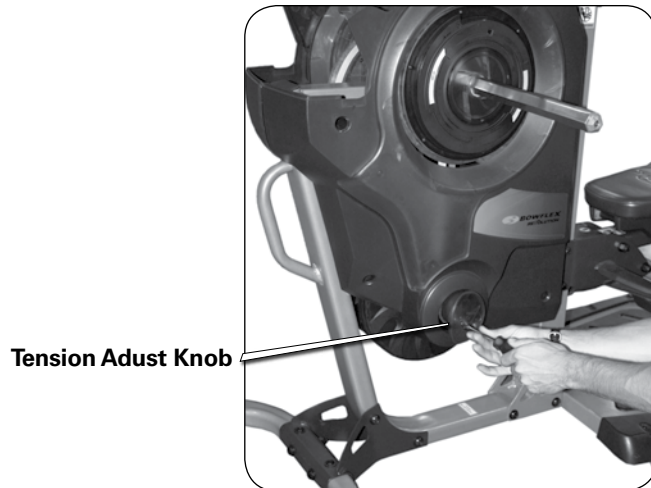

Figure 3a
- 3-1 Use a phillips head screwdriver to remove the screw securing Tension Adjust Knob Cap (**Figure 3a**) and set aside for Step 13.